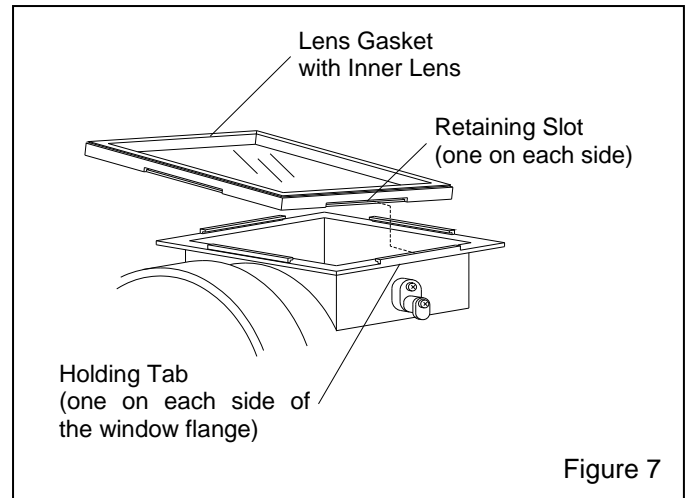

Figure 7
9.2.2 Pull the lens gasket and inner lens off the window opening flange. The gasket is held in place by tabs on the flange that fit into slots on the gaskets as shown in Figure 7.